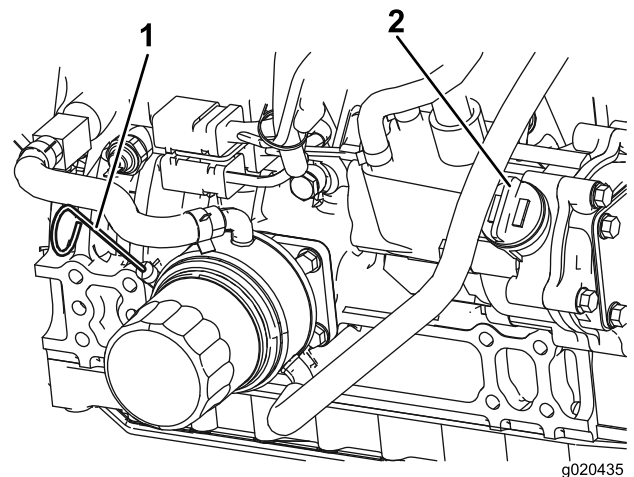

Figure 55
3. Remove the dipstick, wipe it clean, install the dipstick into the tube, and pull it out again. The oil level should be between the full and add marks (Figure 55).
4. If the oil level is low, remove the fill cap (Figure 55) and add oil until it is between the full and add marks. **Do not overfill.**